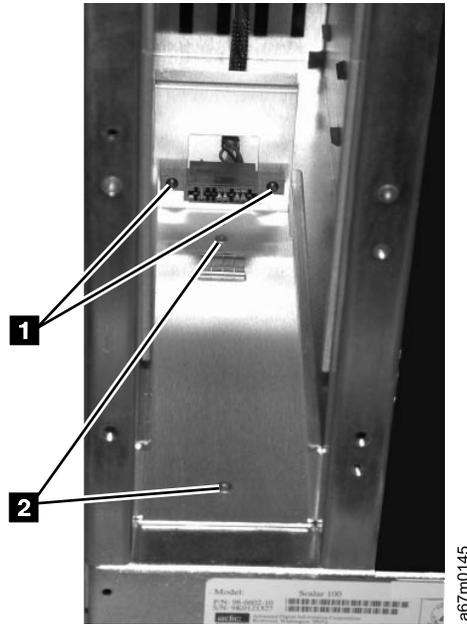

Figure 7-28. View of the RMU Bracket Sub-Assembly and RMU Interface Cable Connector
5. Remove the two T8 Torx screws ( **1** in Figure 7-28) that secure the RMU Bracket Sub-Assembly to the bottom of the chassis and slide the bracket out of the chassis.